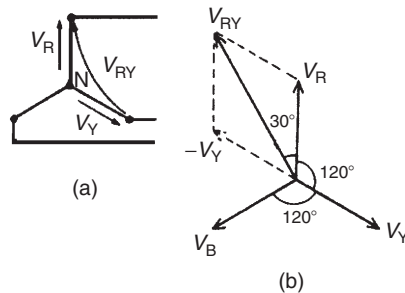

Figure 20.4
- (vi) The line voltage,  $V_{RY}$ , shown in Fig. 20.4(a) is given by  $V_{RY} = V_R - V_Y$  ( $V_Y$  is negative since it is in the opposite direction to  $V_{RY}$ ). In the phasor diagram of Fig. 20.4(b), phasor  $V_Y$  is reversed (shown by the broken line) and then added phasorially to  $V_R$  (i.e.  $V_{RY} = V_R + (-V_Y)$ ). By trigonometry, or by measurement,  $V_{RY} = \sqrt{3} V_R$ , i.e. for a balanced star connection: